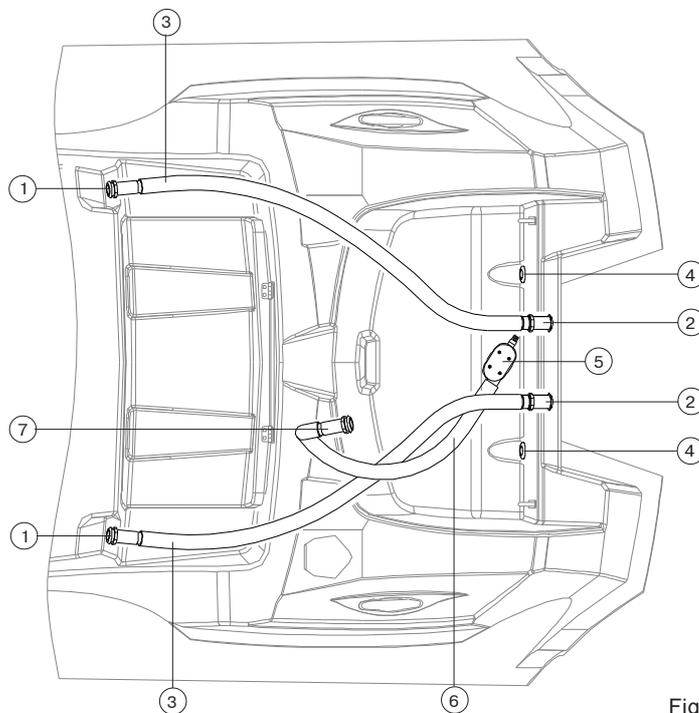

Fig.D8
- automatic bilge pump (5);
- drain hose (6);
- drain socket installed in the motor recess (7);
- bilge drain socket (8) (Fig.D8).